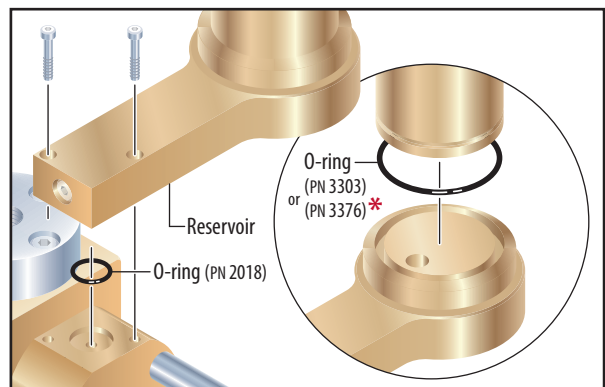

Figure 2
- 3 Use a 3mm Allen key to remove the two (2) cap screws securing the Reservoir to the Main Seal Block, then lift to remove the Reservoir and Reservoir o-ring (PN 2018) (**figure 2**).
- 4 Remove the press-fit Reservoir Vessel, and replace the lower seal o-ring (PN 3303 or PN 3376) (**figure 2**).